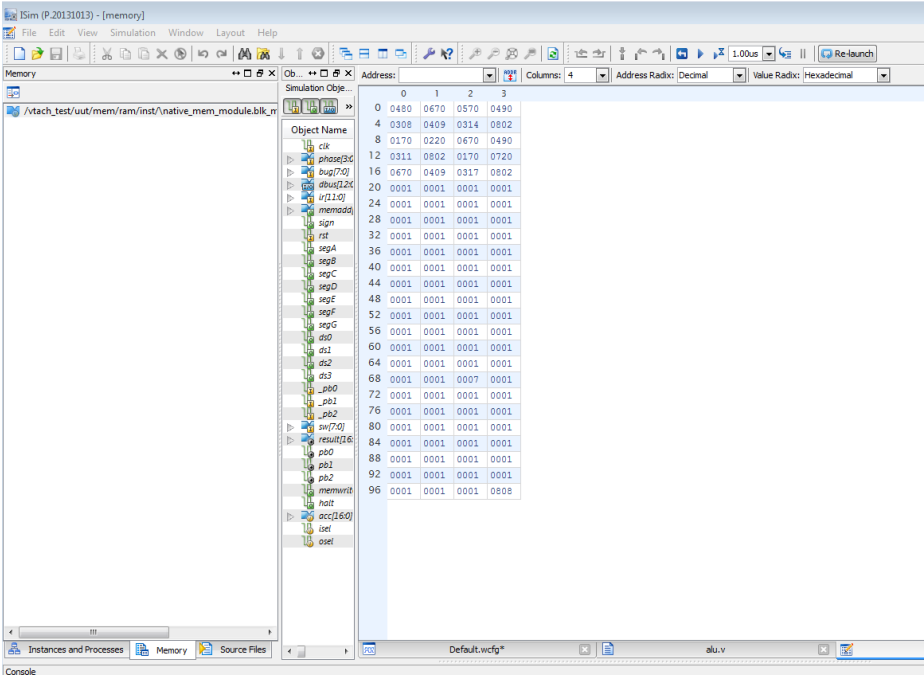

Figure 5-28 Memory display
- Select the memory tab, double-click the block memory link, and you will see the contents of your memory, which includes your program and data (location 70)—see Figure 5-28.